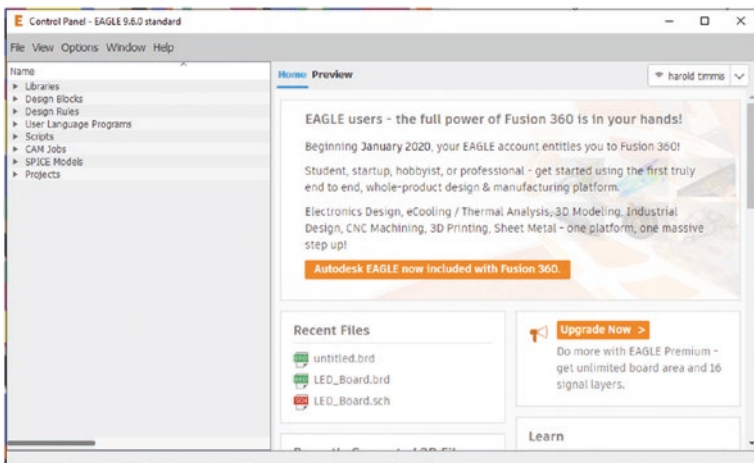

Figure 5-4. Open Eagle
1. Open Eagle. See Figure 5-4.